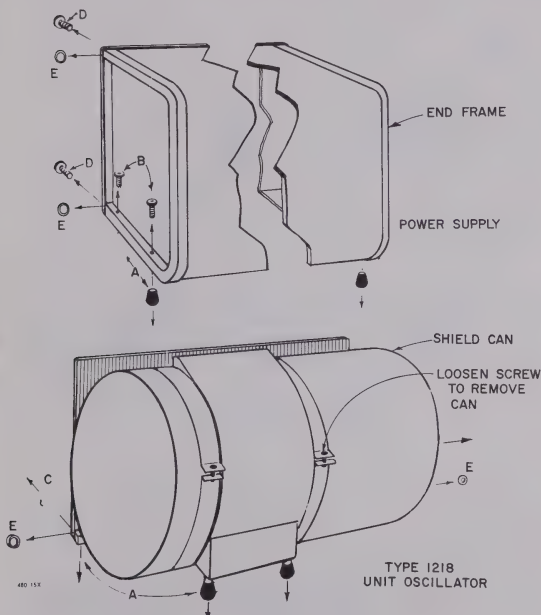

Figure 2-5.
a. Remove the rubber feet (A) from the oscillator and power supply (Figure 2-5). On the power supply, remove and retain the footscrews.